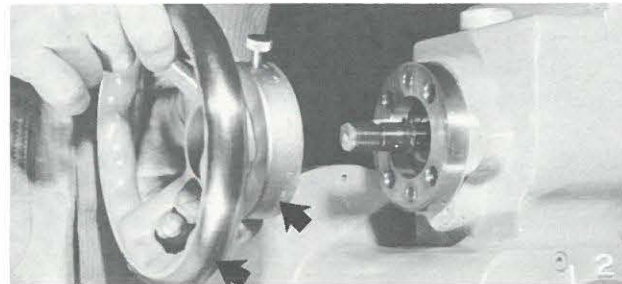

FIGURE 20A
1. Unscrew split type lock nut (220B, page 76) from left end of table leadscrew (252B) and remove handwheel with dial [see Figure 20A.] Remove key (250B) and split ring (221B).